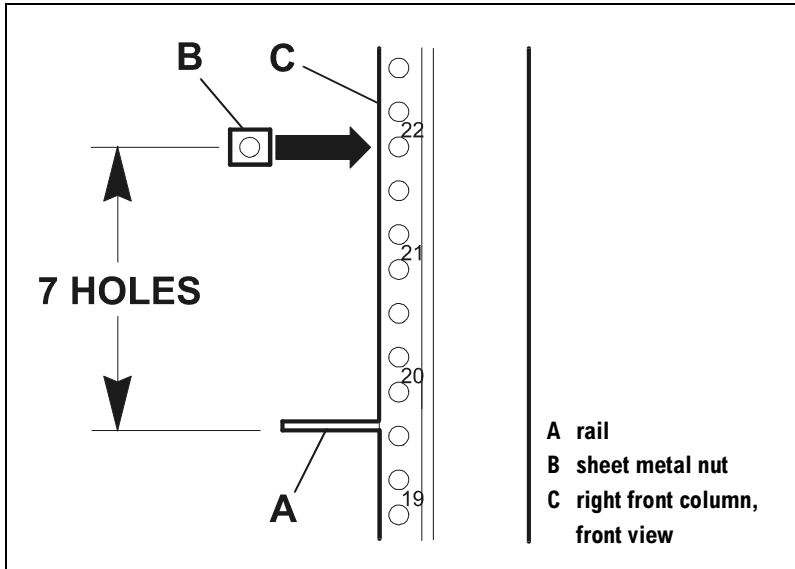

Figure 23 Rack Front Preparation: Half-Unit Rail Position
- If the bottom of the rail (A in Figure 23) lies between EIA Units, count seven holes up from the rail ledge and install the sheet metal nut.